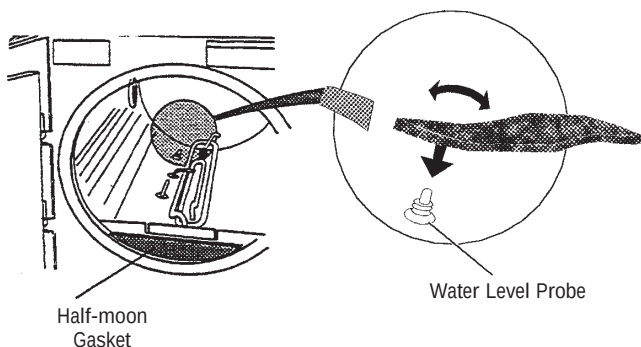

**Figure 5-2**
2. Using a Scotch Brite™ (3M) pot scrubbing pad (available locally), clean the probe by placing the pad over the probe and rotating in a circular motion (Figure 5-2).